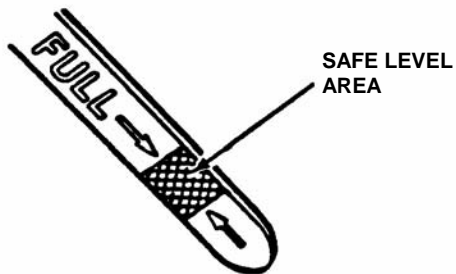

FIGURE 2.1
2.1.3. Check engine oil and add oil as needed to bring level up to the FULL mark. Refer to engine owner's manual for oil specifications. See Figure 2.1.